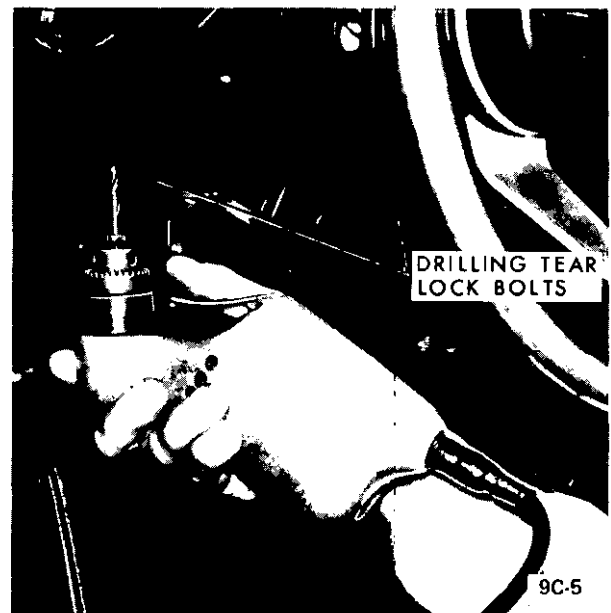

Figure 9C-5 Drilling Pilot Hole into Tear Lock Bolts
6. Remove tear lock bolts by first drilling a 3/16 inch pilot hole and, using a 1/4 inch bolt extractor, remove bolts. See Figure 9C-5.